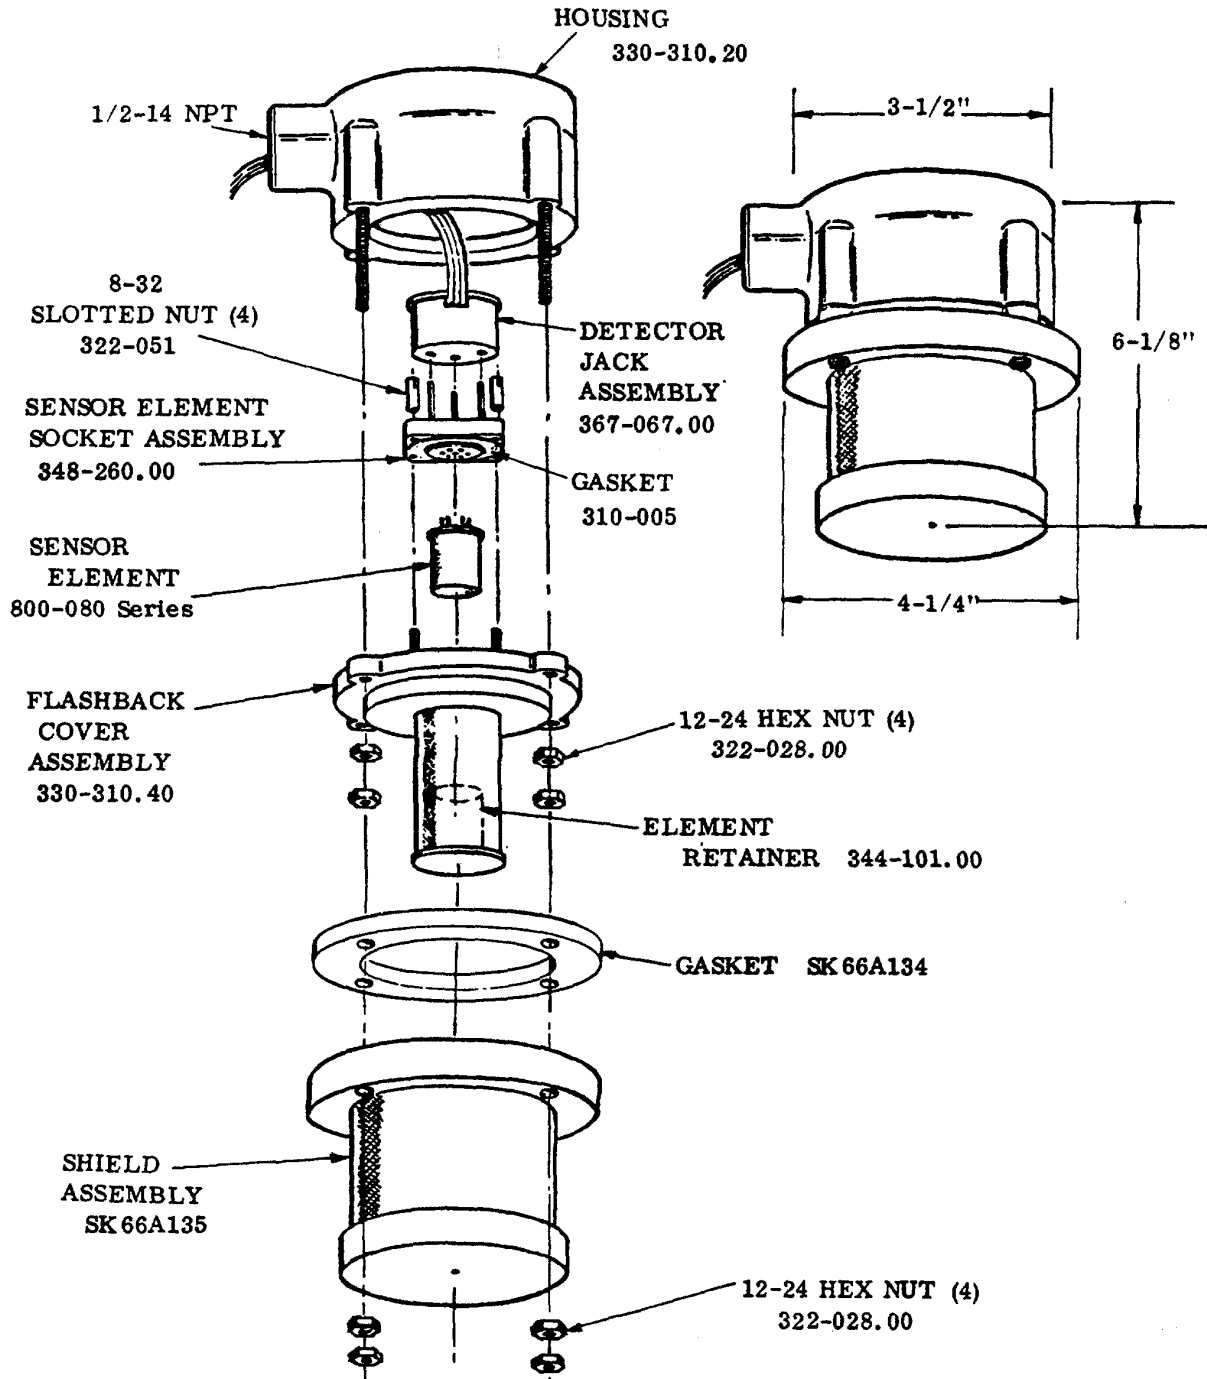

Figure 2-23. Detector Model 0023-7317 Exploded View
(1) Break tubing connections at union fittings
(2) Loosen setscrew used to secure aluminum weatherguard housing from body to expose sensor element.
- e) To expose element of Detector #0023-7317 (Figure 2-23):